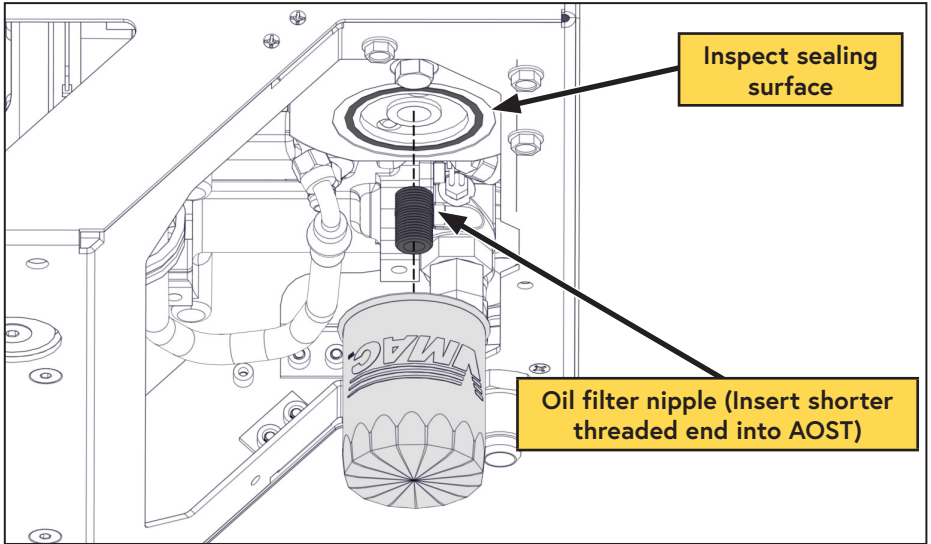

Figure 3 — Replace oil filter
- Ensure the threaded nipple did not unscrew with the oil filter (Figure 3).
- *If the nipple came out with the oil filter, remove it from the filter, being careful to avoid damaging the threads (Figure 3).
- *To reinstall the nipple, thoroughly clean the threads and apply Loctite 242 (blue) to the end with the short threads and replace it in the AOST (Figure 3).
- Clean the gasket sealing surface on the front of the AOST and inspect it for damage. The surface must be free of old gasket material, and smooth, to ensure a good seal (Figure 3).